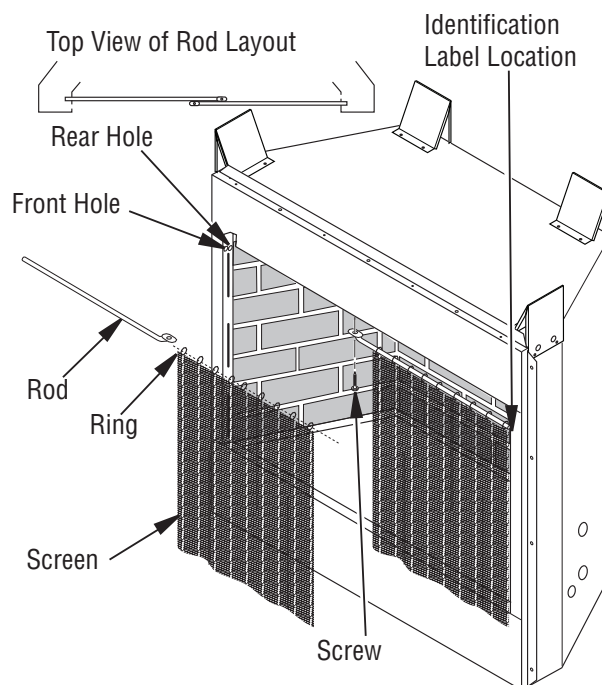

Figure 6 - Installing Fireplace Screen
2. Insert first rod into rear hole in left side of fireplace. Fasten rod to rear hole near center of fireplace using #10 x 3/8" Phillips screw provided (see Figure 6).